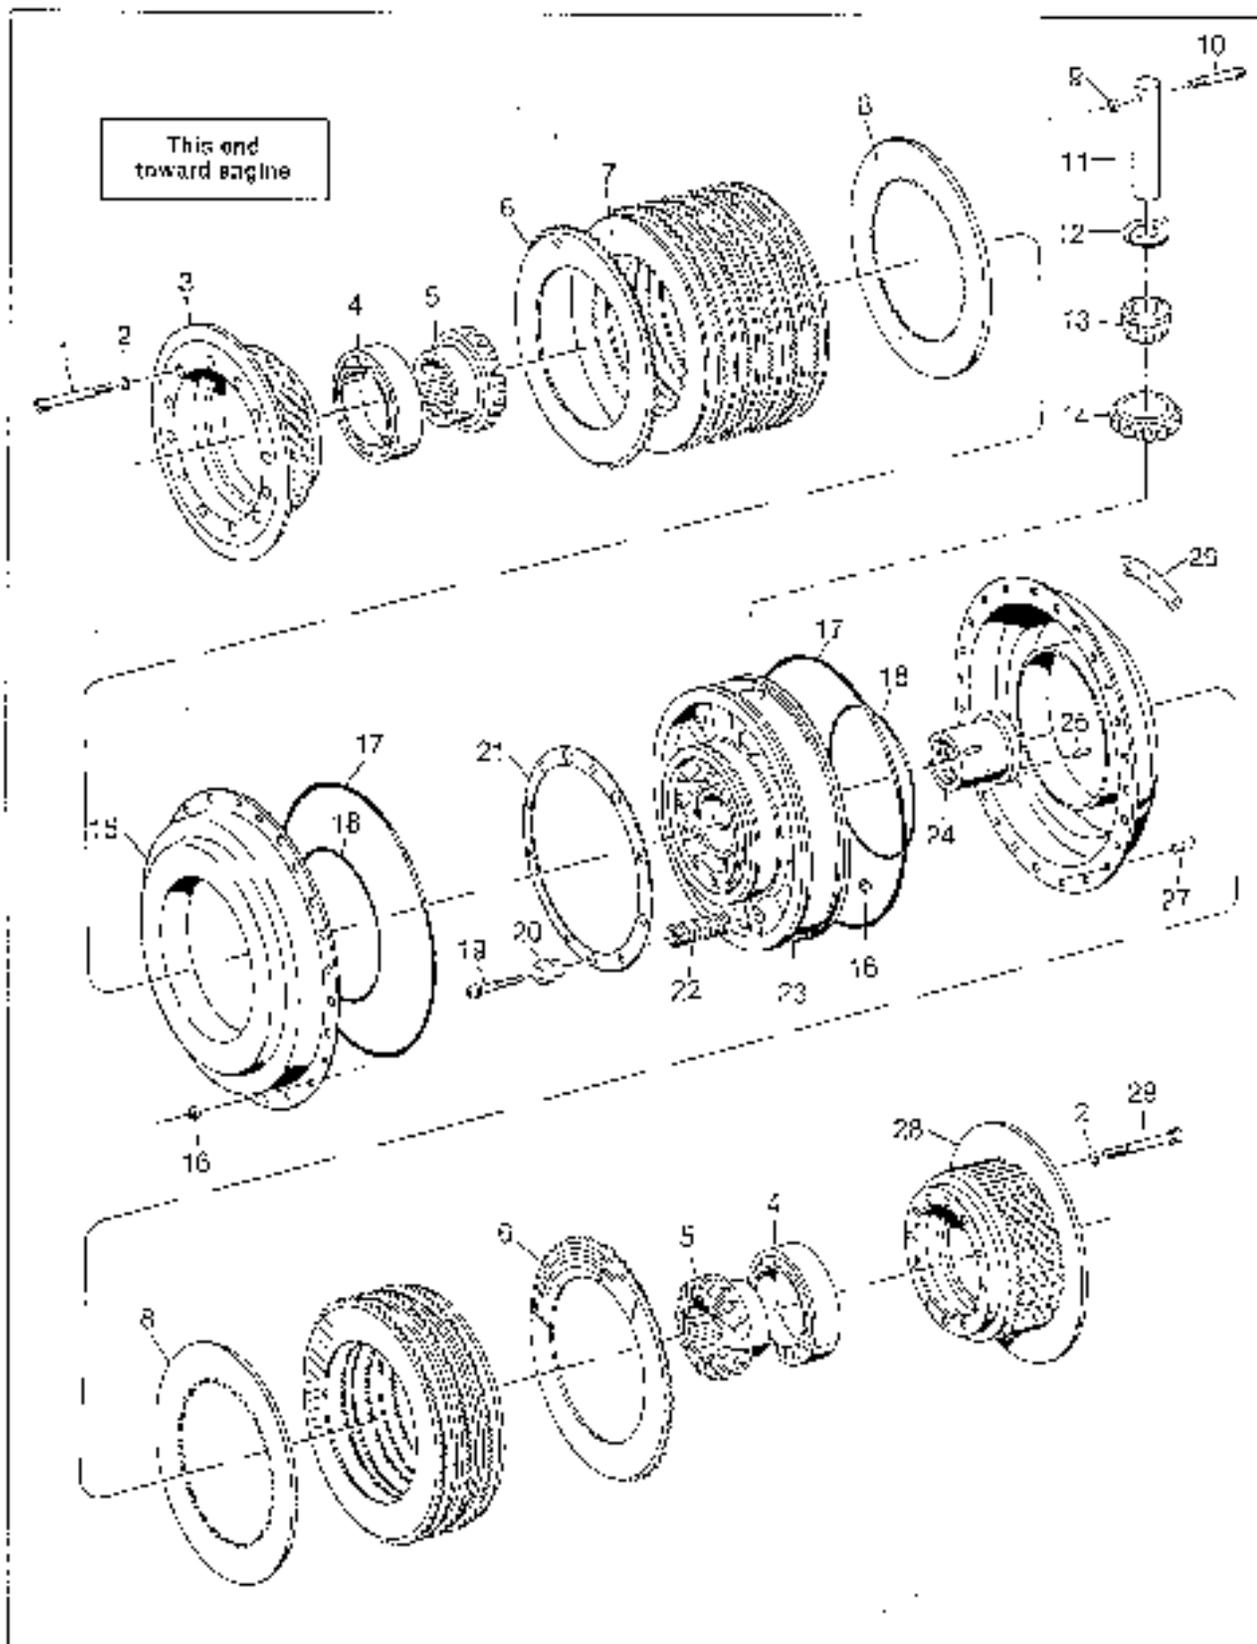

Figure 57. Clutch Assembly no. 1-30100-5004
8. Fig. # and item #	Fig. 57 item 6